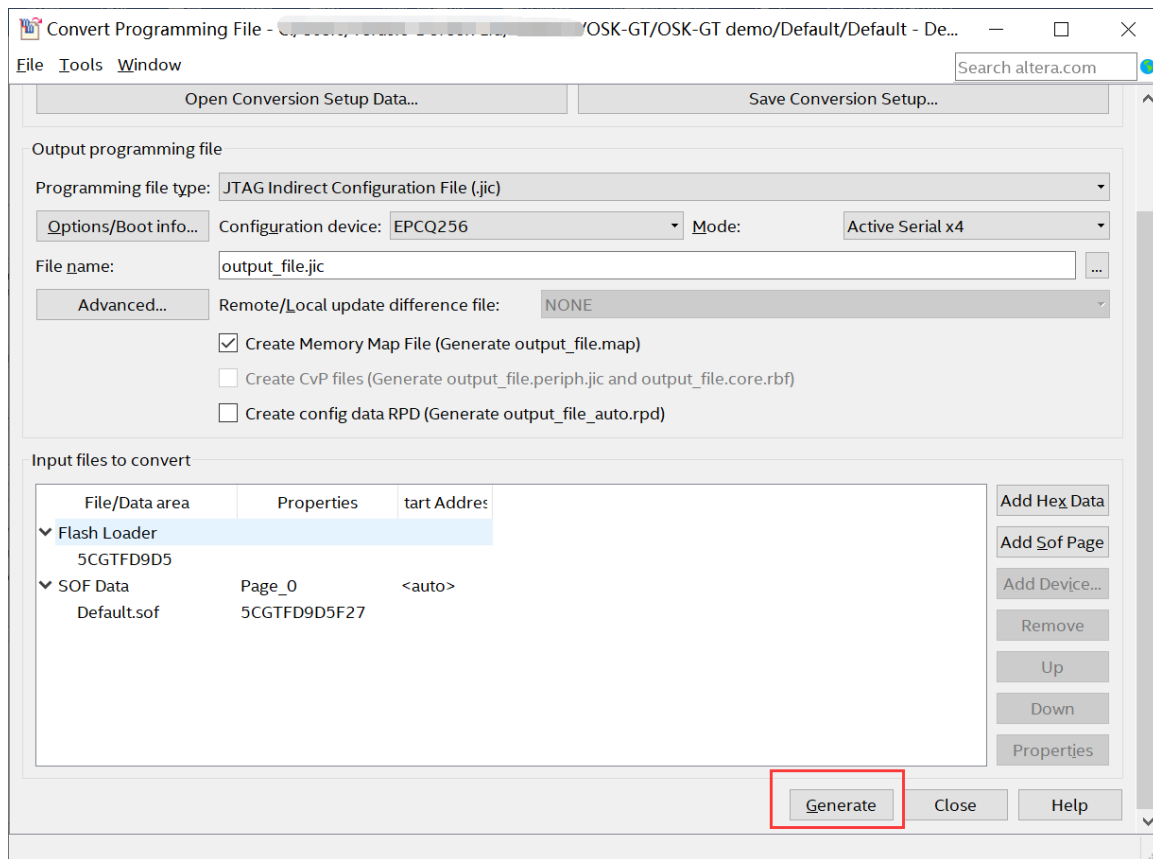

Figure 6-5 Convert Programming Files page
13. Click **OK** and the Convert Programming Files will appear, as shown in **Figure 6-5**.